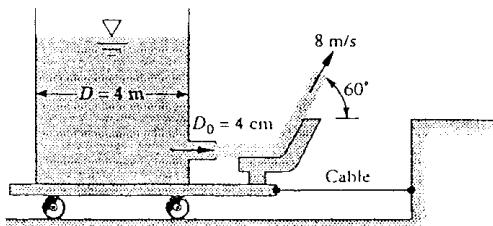

Fig. P3.58
- 3.58** The water tank in Fig. P3.58 stands on a frictionless cart and feeds a jet of diameter 4 cm and velocity 8 m/s, which is deflected 60° by a vane. Compute the tension in the supporting cable.